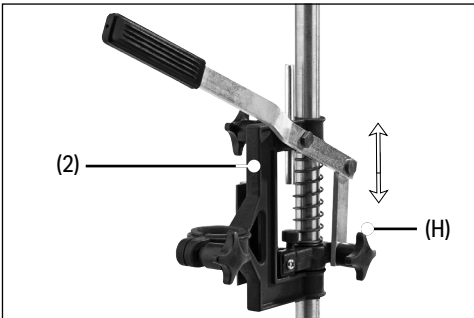

Fig. 8
2. To adjust the height, loosen the handle knob (H) and move the head assembly (2) up or down to the correct drill height and retighten the knob. (Fig.8)